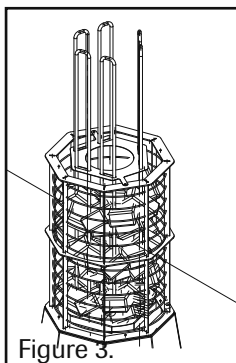

Figure 3.
- The stove is attached to the wall or sauna benches with two fastening elements as shown in figures 3 and 4.